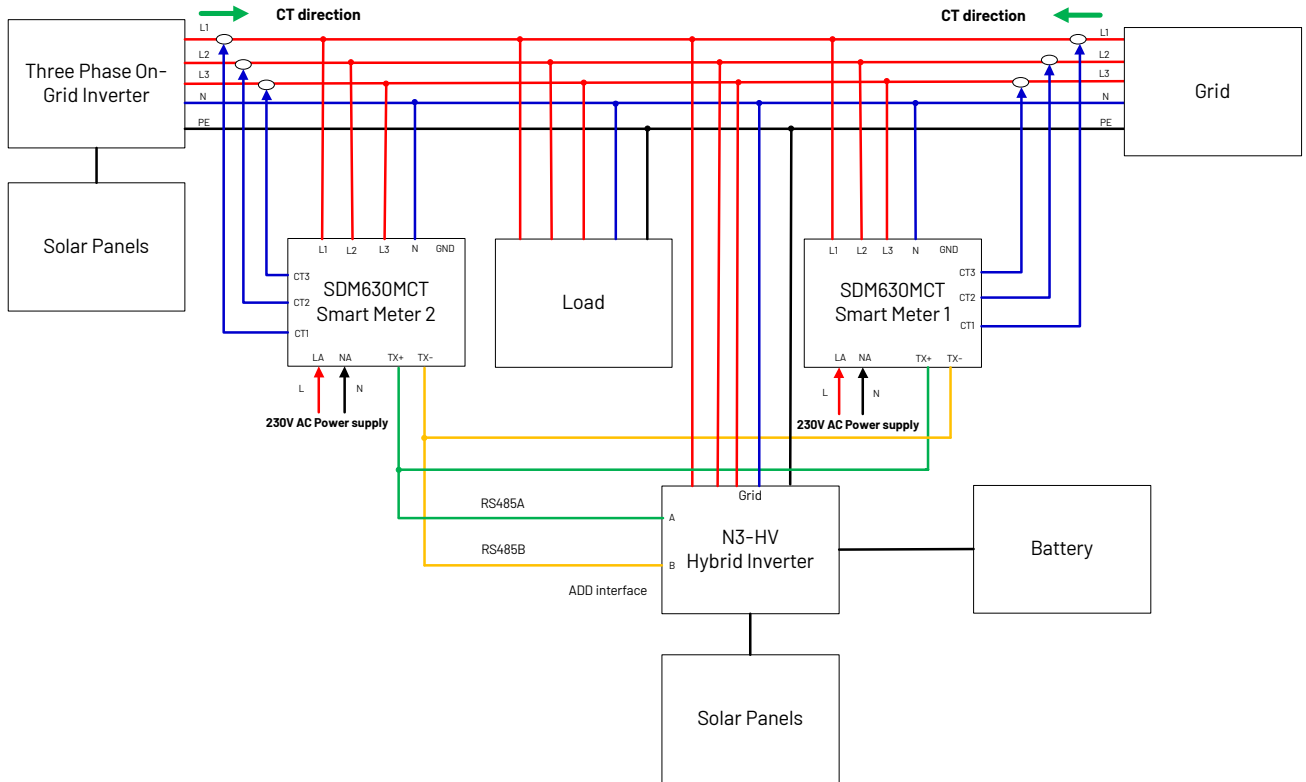

Figure 5-28 Connect one On-Grid three-phase inverter
- 4) Connect two On-Grid three-phase inverters(Figure 5-28): The local address needs to be set as "001" on the inverter screen, and meter1 address set as "001", meter2 address set as "002", and meter3 address set as "003". The address of meter1 itself needs to be set to "001", meter2 needs to be set to "002", and meter3 needs to be set to "003".